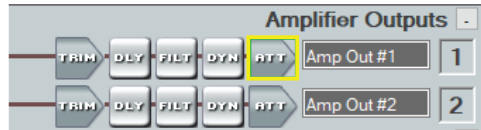

Figure 60. Amplifier Outputs Block
6. Click **OK** (③) to apply the change and close the dialog box.
7. Double-click the Amplifier Output ATT block (highlighted in yellow in figure 60 on the next page) to open the attenuation dialog (see figure 62 on the next page).